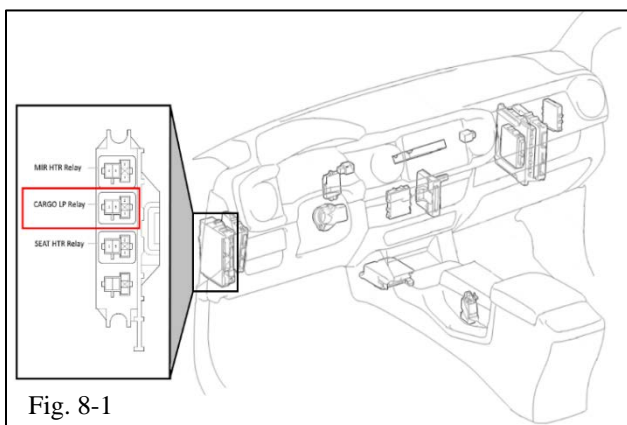

Fig. 8-1
- (a) See Fig. 8-1 for relay location (P/N: 90080-87026).